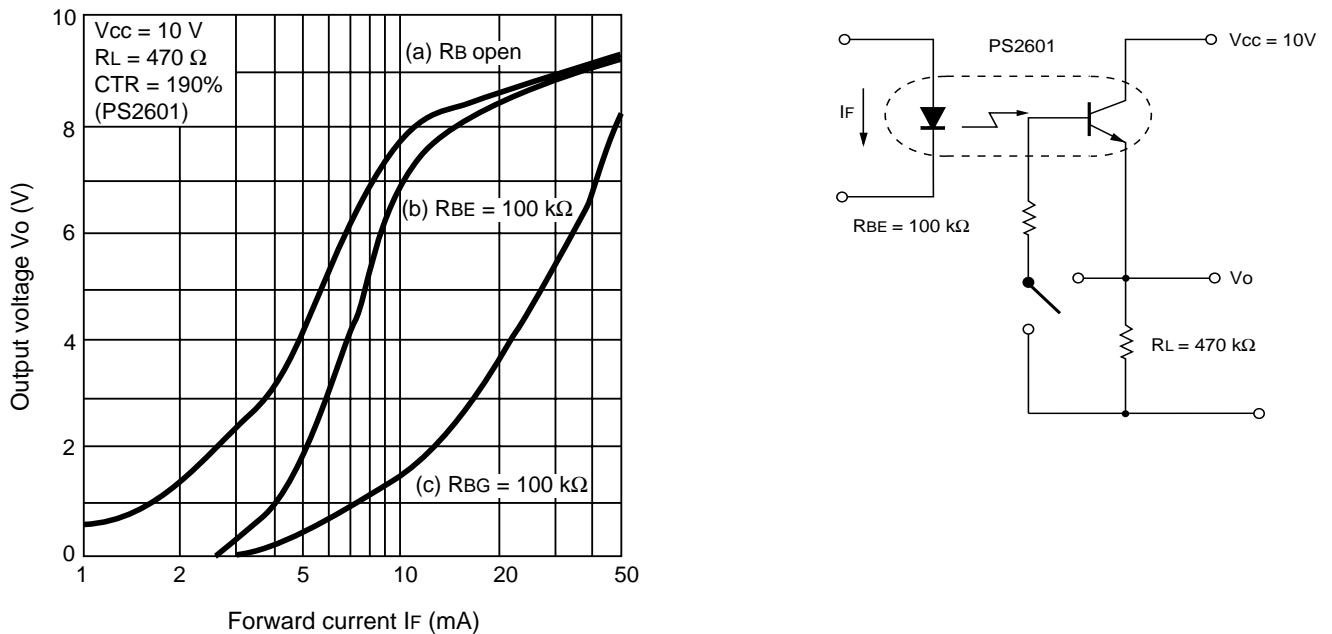

Figure 3-5. V_0 vs. I_F Characteristics
When resistor R_{BE} is serially connected to resistor R_L (see Fig. 3-4 (c)), the reduction of a CTR becomes greater even if $hFE2$ is approximately equal to $hFE0$ in expression (8) as the expression includes R_L as a parameter. Fig. 3-5 shows typical V_0 vs. I_F characteristics of the above circuits (a), (b), and (c).